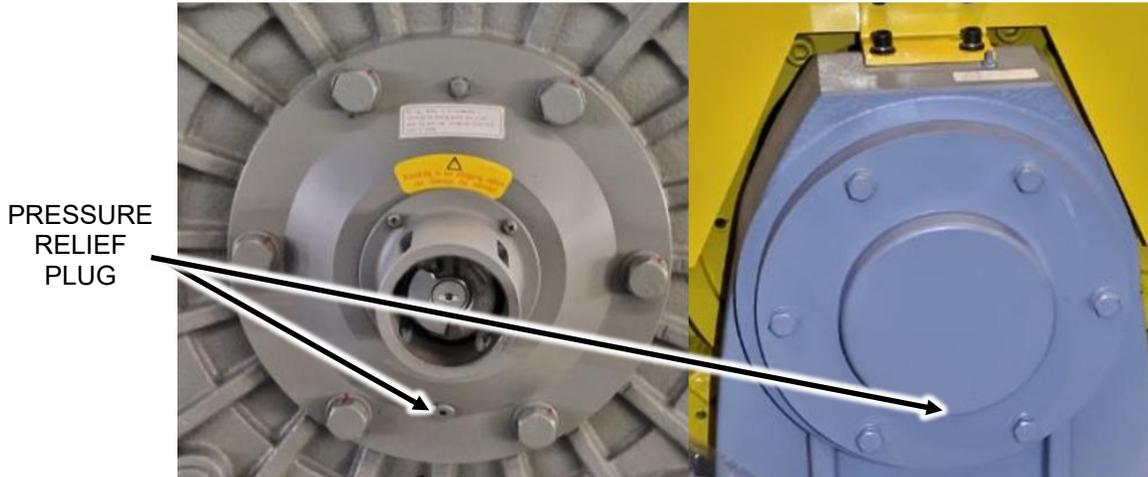

Figure 19
1. To grease bearings, first remove the pressure relief plugs from the outboard stand and the back of the machine. See Figure 19.